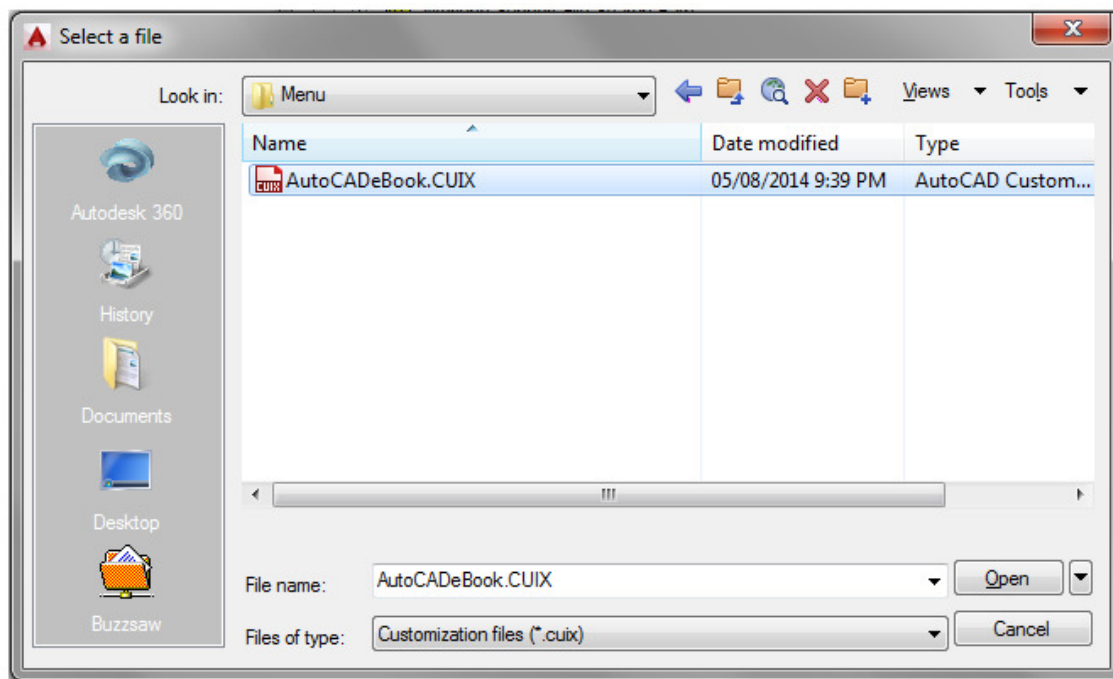

Figure Step 9
Step 9 Under the folder : CAD Courses, select the folder: AutoCAD 3D. Under the folder: AutoCAD 3D, select the folder: Menu. In the folder: Menu, select the file: AutoCADeBook.CUIX and then click Open. (Figure Step 9)